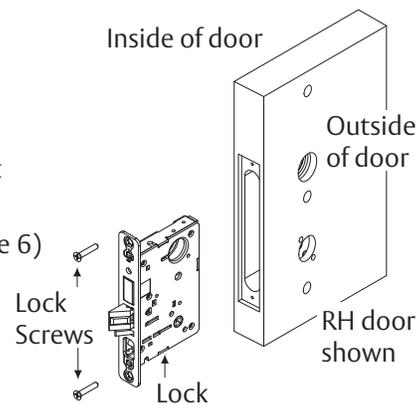

Figure 6
2. Ensure handing of lock and door match. Slide lock into door. (Figure 6)
3. Temporarily hand tighten two (2) lock screws (#12 x 1-1/4" wood screws, or #12-24x 1/2" machine screws).